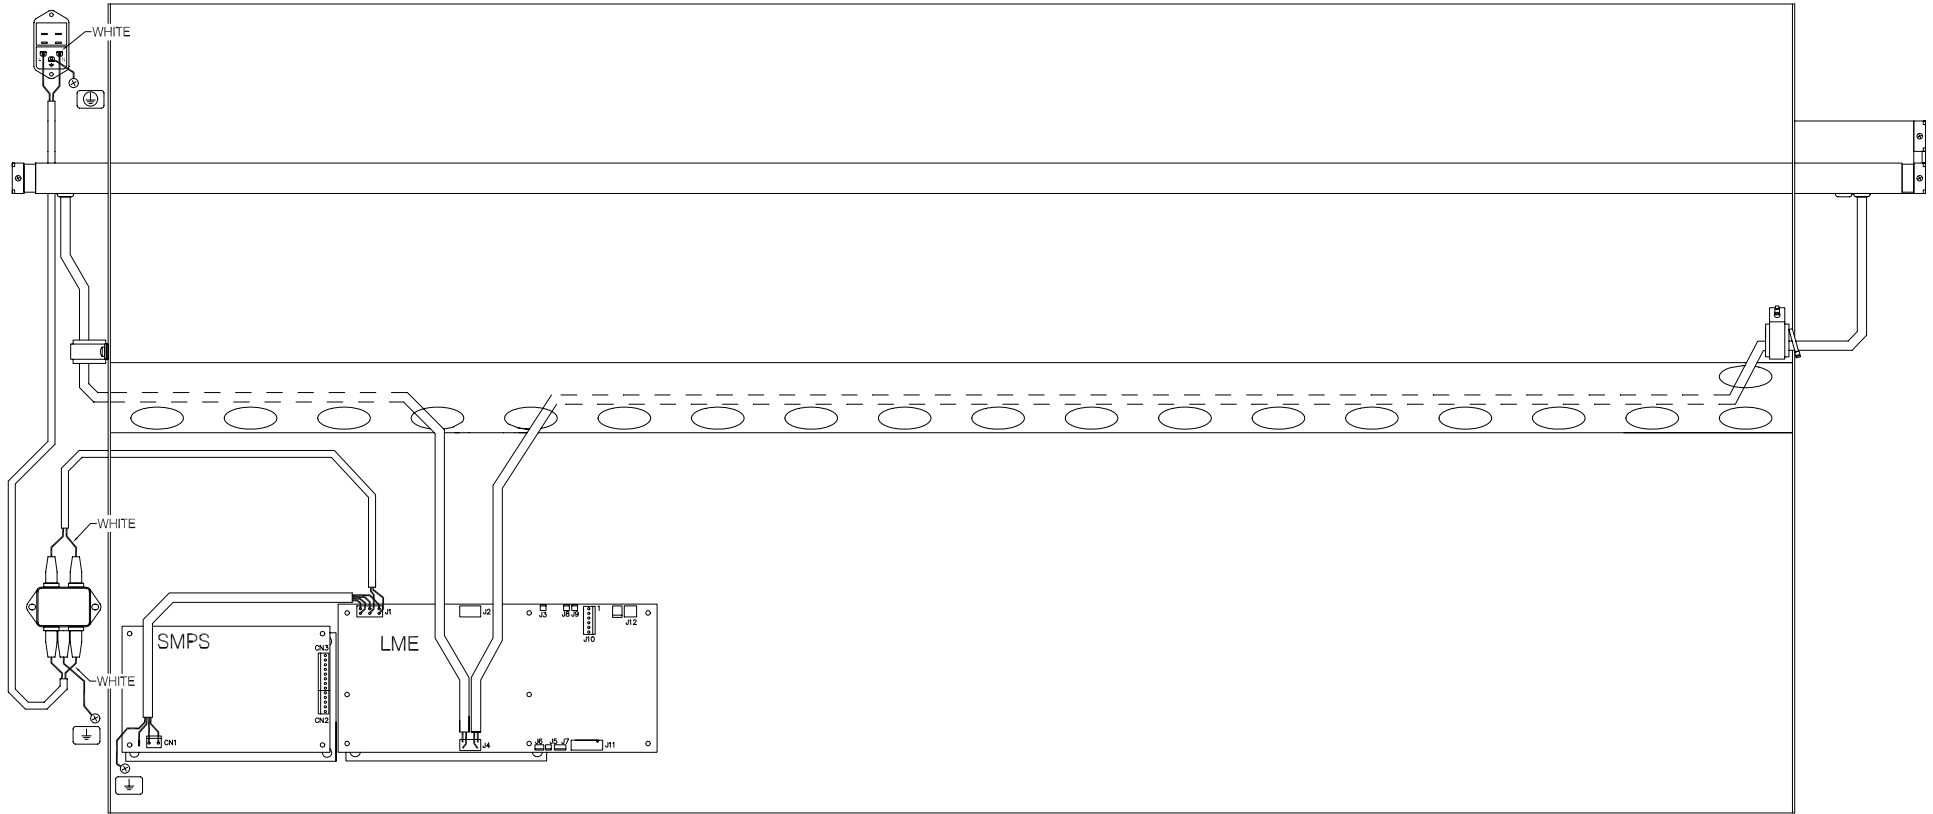

Fig. 11-11 MAGNUM XL 54, Primary Wiring
- Fig. 11-11 MAGNUM XL 54, Primary Wiring, page 189